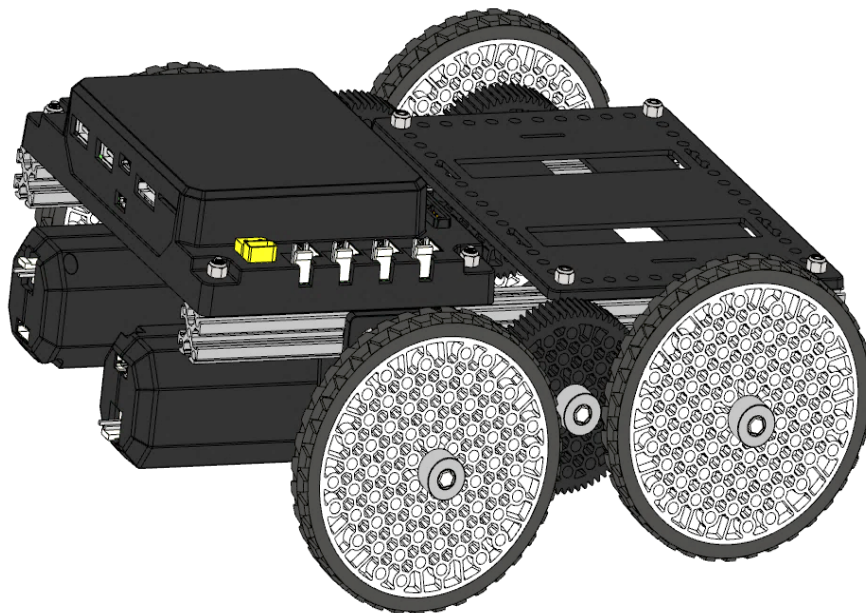

Figure 1: Completed miniBot Example
- a. Follow the miniBot Build example (Figure 1) on the FIRST Global resources webpage.